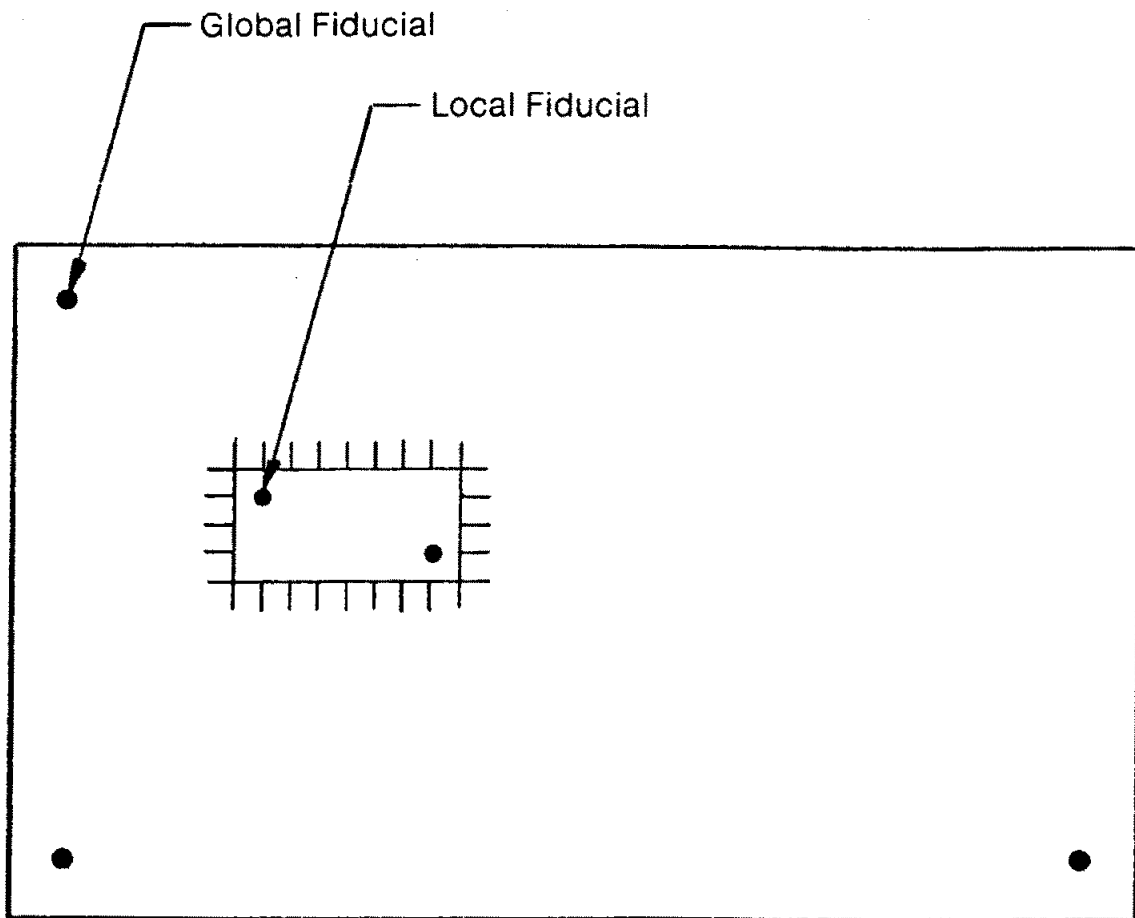

Figure 1. Printed Circuit Board Global and Local Fiducial Marks.
3.1 Global Fiducials: (See Figures 1 and 2.)